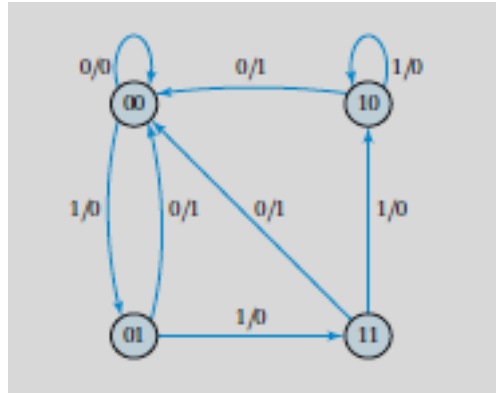

Figure 9.1 State Diagram of the Sequential Circuit.
- The state diagram provides the same information as the state table. The Fig. 9.1 shows the state diagram for the state table mentioned in Table 9.1.